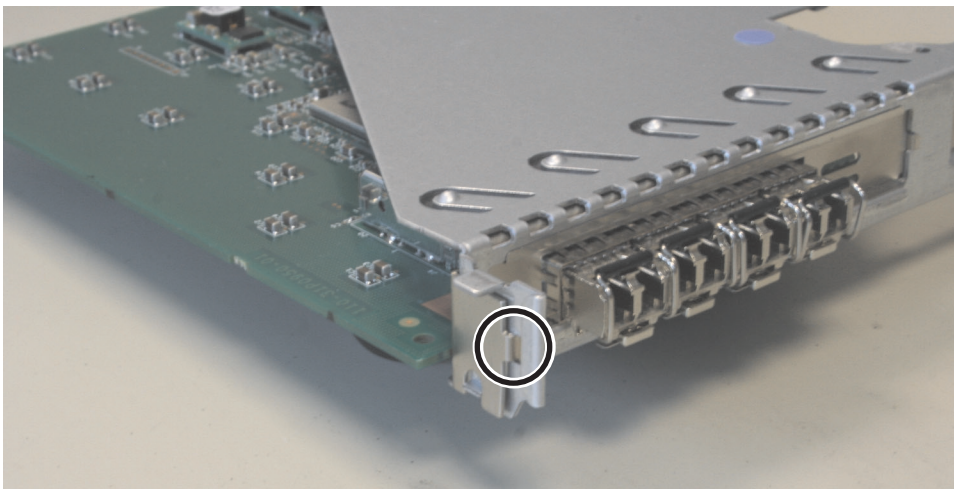

Figure 185. SAN Volume Controller 2145-8A4 riser-card assembly
2. Slide the fibre-channel adapter into position, keeping it close and parallel to the back edge of the riser card. Push the adapter securely into the connector. Ensure that the positioning clip on the adapter goes into the locating hole on the riser card, as shown in Figure 185.